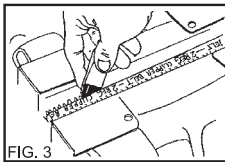

FIG. 3
B. Lay card of hooks on side. Grasp hook with thumb pressing against paper. Insert knife blade into slot located on back of carding paper and cut downward (Figure 3). Flip card over, insert blade into slot and cut downward again.
2. With carding paper remover (or fingernails) pull carding paper back off the hook points (Figure 3).